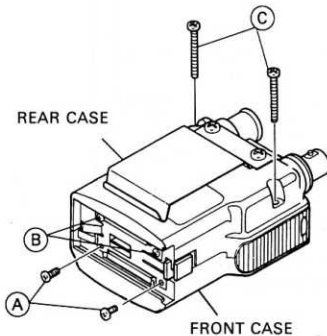

Figure 4-2
- c) Replace the front case and back cover so that they fit together. As shown in Figure 4-2, secure the front case in place by screwing in the two body and bottom cover fixing screws (B).
- d) Replace the electrical contact screw (A) which was removed earlier (Figure 4-2). First inserting the electrical contact back into the lock button groove and then secure it with the screw.